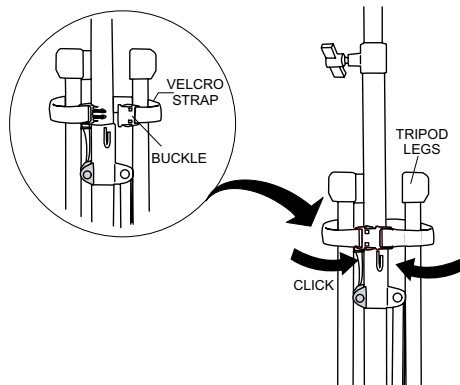

Figure 21. Velcro Strap (Closed)
8. Once tripod legs are in the stow position, place velcro strap (Figure 21) around all three tripod legs. Secure tripod legs by inserting the male and female connector ends of the strap into each other.